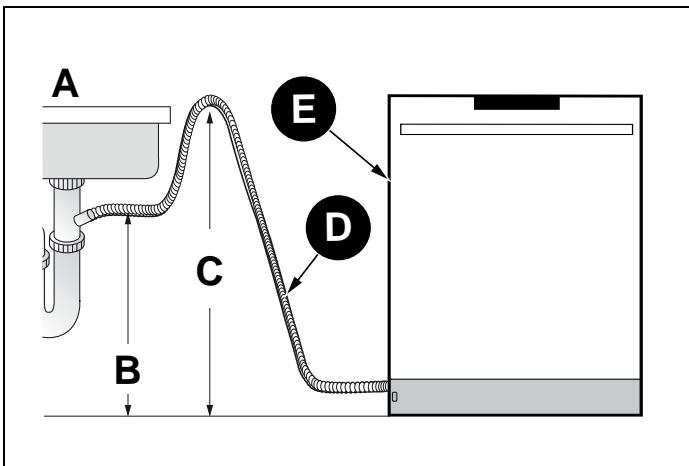

Fig. 20
- 5) If there is no air gap, make sure to suspend the middle of the drain hose well above the sink cabinet base to prevent back flow (see Fig. 20).